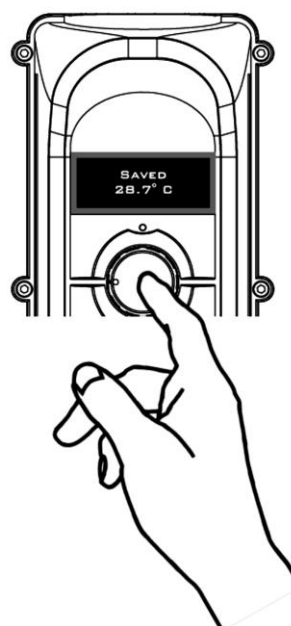

Fig. 11
To confirm selected option, press the knob button (OK). The display should show message 'SAVED' confirm the changes (see Fig. 11).